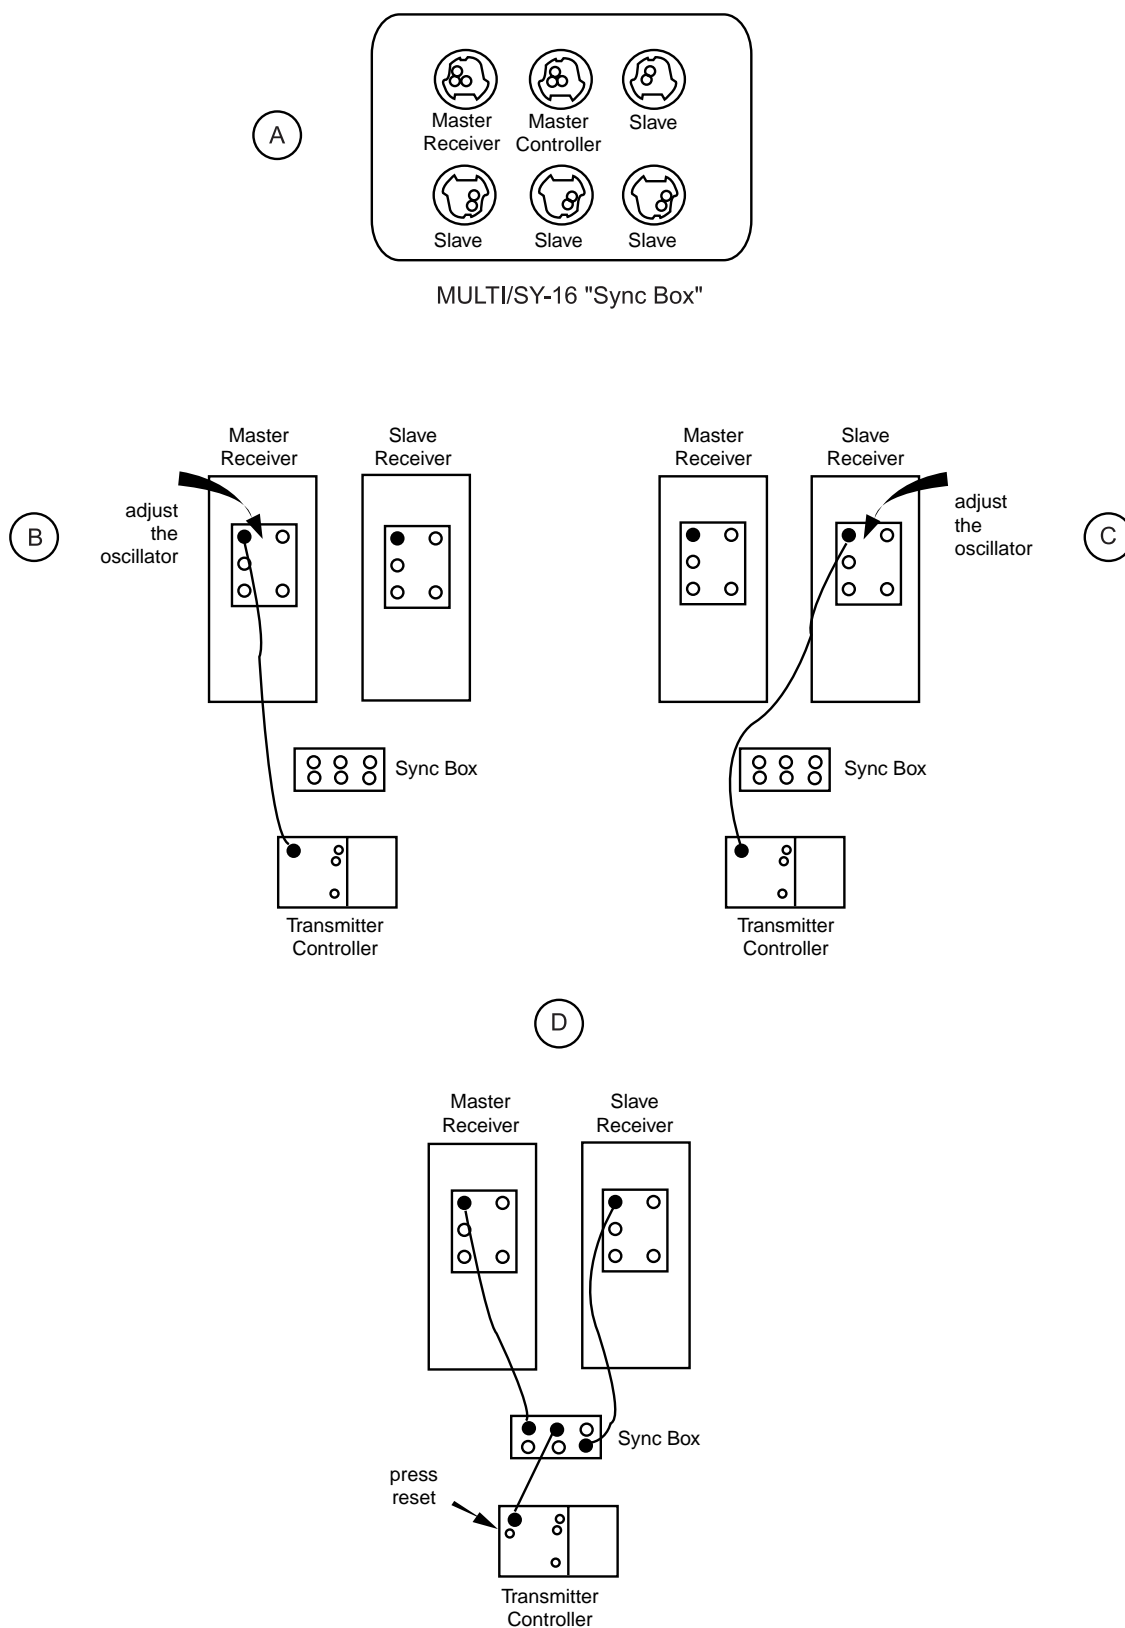

Figure 6.5 - Synchronizing a system of multiple receivers with the older MULTI/SY-16 Synchronization Box.
1. Obtain a MULTI/SY-16 Sync Box (Figure 6.5(a)) and extra synchronization cables (one per receiver) from Zonge Engineering. Arbitrarily designate one receiver as master and the rest as slave receivers.
2. Connect a synchronization cable between the Transmitter I/O port of the master GDP-32II receiver and the transmitter controller's I/O port, as shown in Figure 6.5(b).
6. Make attachments as shown in Figure 6.5(d), being careful to connect the receivers and transmitter controller to the proper ports on the Sync Box.
1. Adjust all receivers individually, using the master transmitter controller as shown in Figure 6.5 (b) and (c).
4. Connect an additional cable between the slave controller's I/O port and any slave port on the Sync Box as shown in Figure 6.5(d).